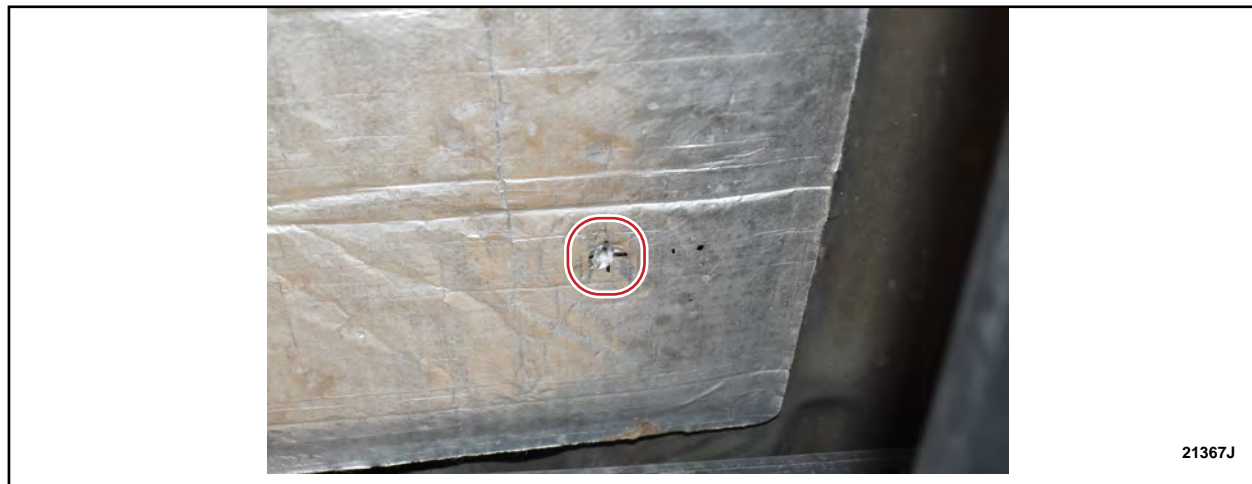

FIGURE 11
11. Use the 5.1 mm (13/64 in) drill bit for rivet part number W719880-S417 or the 6.7mm (17/64 in) drill bit for all other rivet part numbers to drill a hole through the insulator and into the floor. See Figure 11.